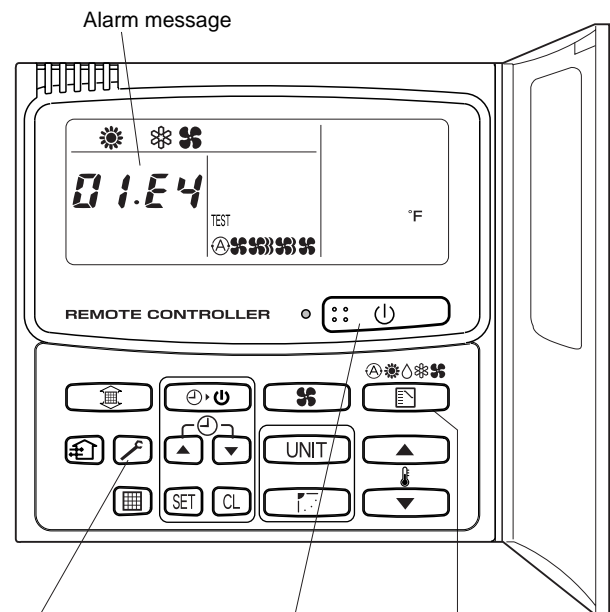

Fig. 12-3
- a Press the  (TEST RUN) button on the remote controller. (Fig. 12-3)